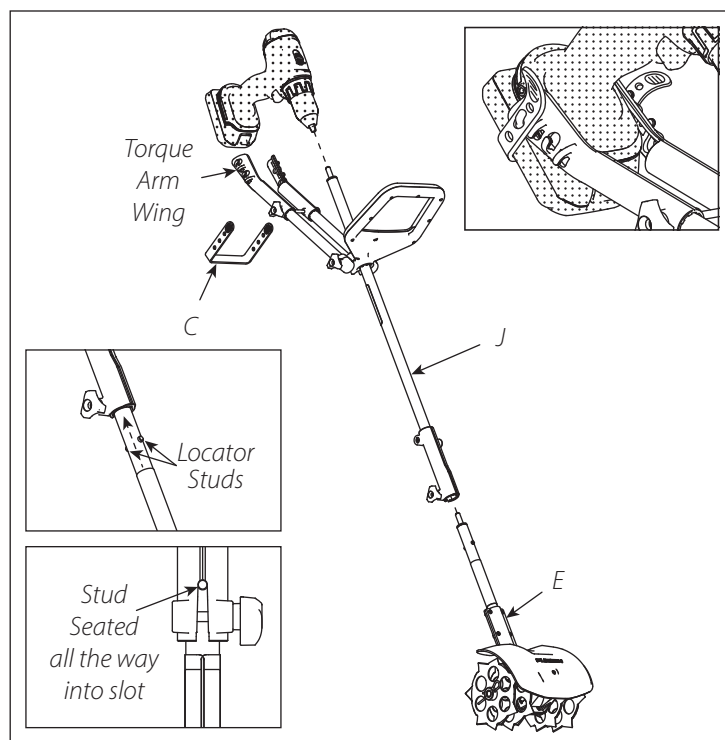
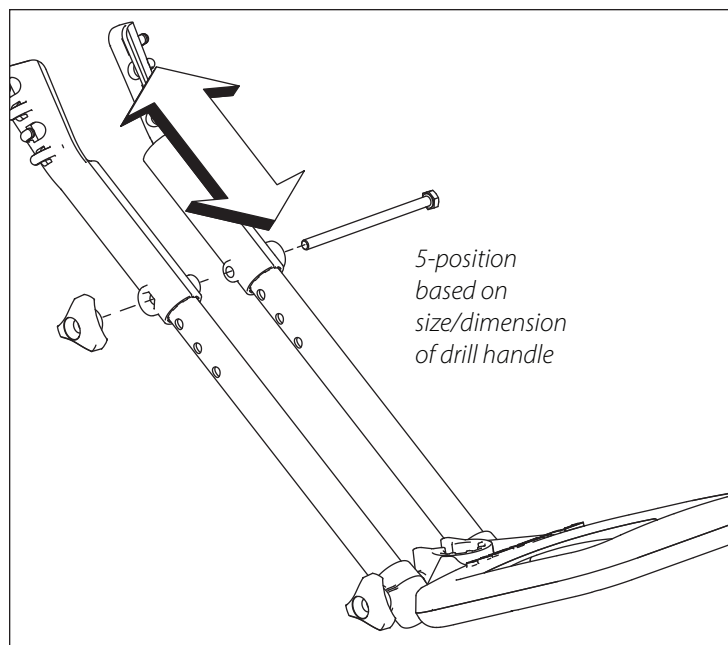

FIGURE 5
FIGURE 7
SEE FIGURE 5
3. Pivot both torque arms back down so that the left and right wings nest over the foot of the drill that holds the drill's battery. **SEE FIGURE 5** Depending on the drill used, the plastic wing ends of the torque arms may be extended by removing the tool's hand knob nut and bolt closest to the drill and extending the plastic ends to the appropriate bolt hole position in the left and right aluminum tubes of the torque arms. **SEE FIGURE 7**
4. Secure the wing ends of the torque arm with the rubber strap (C) hooked onto the best available hook of one torque arm wing, stretching the strap around the bottom of the battery and hooking it onto the best available hook on the other side. Multiple holes are available on the rubber strap to ensure a secure stretch fit around most any available battery size. **SEE FIGURE 5**
SEE FIGURE 7